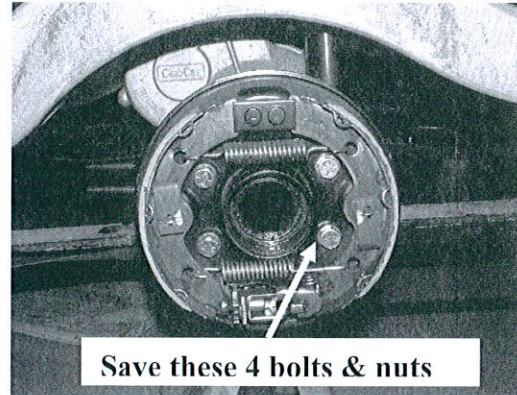

Fig 2 Original drum brake assembly
2. Remove the axle shaft per vehicle manufacturer's instructions. Remove brake assembly from vehicle by removing the four small bolts that attach the assembly to the axle. Save all fasteners. (See Fig 2)